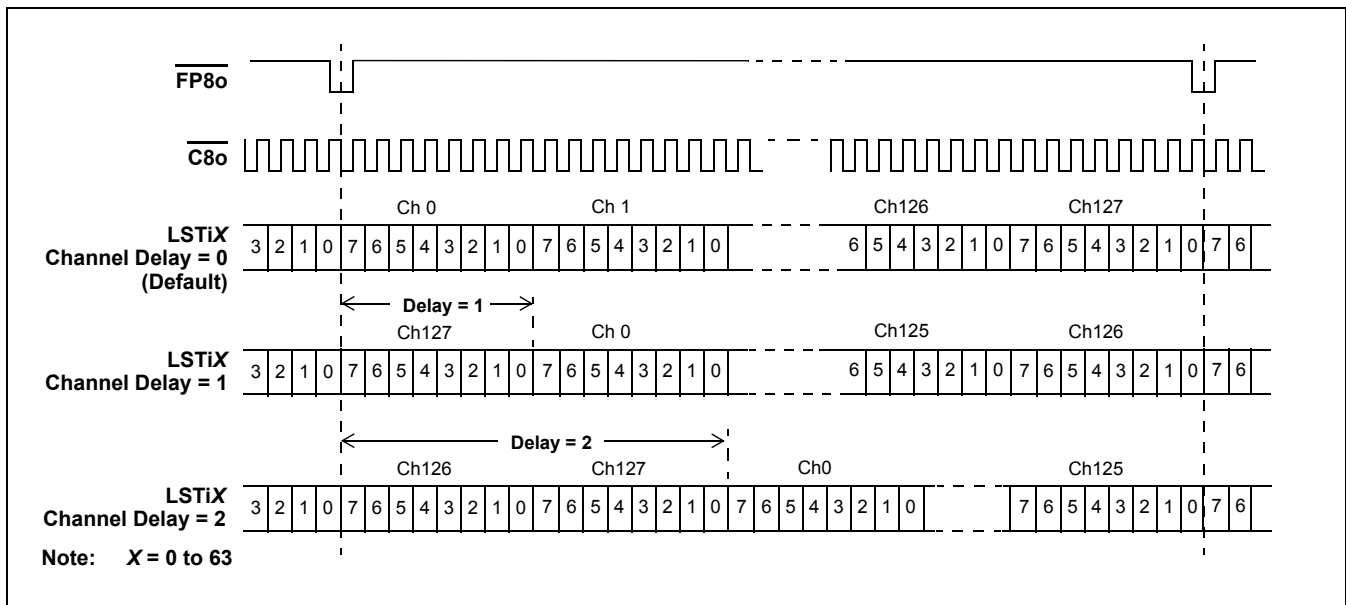

Figure 13 - Local Input Channel Delay Timing Diagram
The local input channel delay programming allows all local input streams to have a different frame boundary with respect to the local frame pulse (F8o). It is enabled when the LICDEN bit in the control register (CR) is high. The local input channel delay registers (LICDR0 - LICDR31) allows the users to delay the input channel from 0 to 127 channel for every local input stream. Figure 13 describes the local channel delay timing with different delay values.